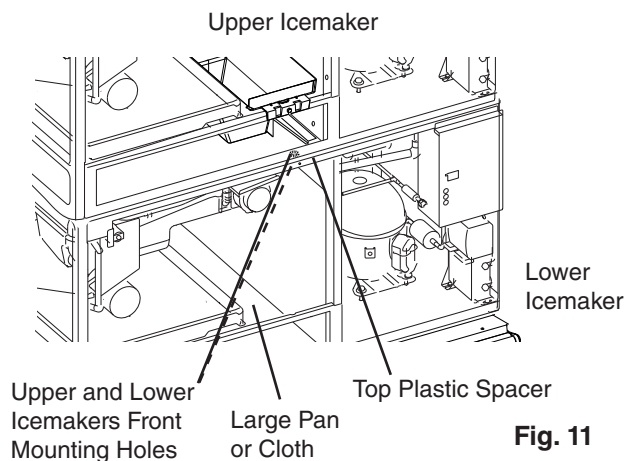
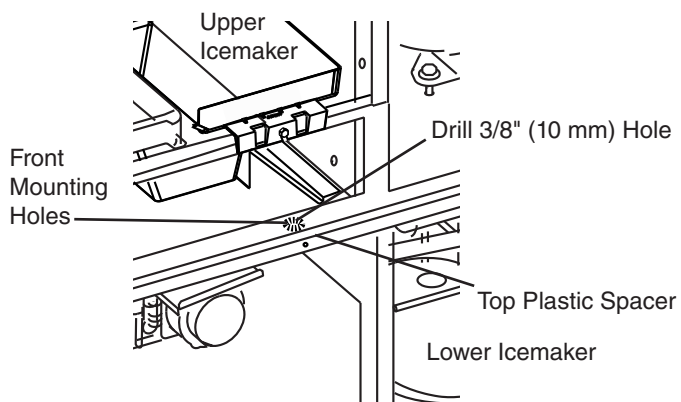

Fig. 11
Fig. 12
- 20) At the front of the icemakers, locate the lower and upper icemakers front mounting holes. See Fig. 11. To prevent plastic shavings from entering the ice storage bin area during drilling, place a large pan or cloth under the icemakers front mounting holes. Using the lower icemakers mounting hole as a guide, drill a 3/8" (10 mm) hole up through the top plastic spacer between the upper and lower icemaker. See Fig. 12.